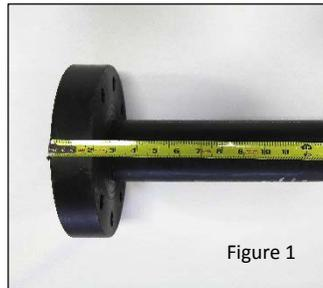
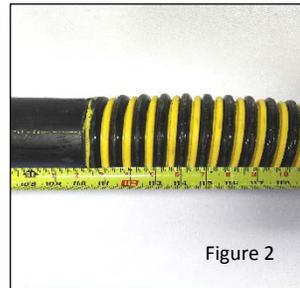

Figure 1
Figure 2
2. Take the measurement from above and subtract 1-3/4", use this dimension to mark the Kelso Eduction Tube. Measure from the bottom of the tube flange (Figure 1) toward the end of the eduction tube, this dimension will fall within the flexible portion (Figure 2).